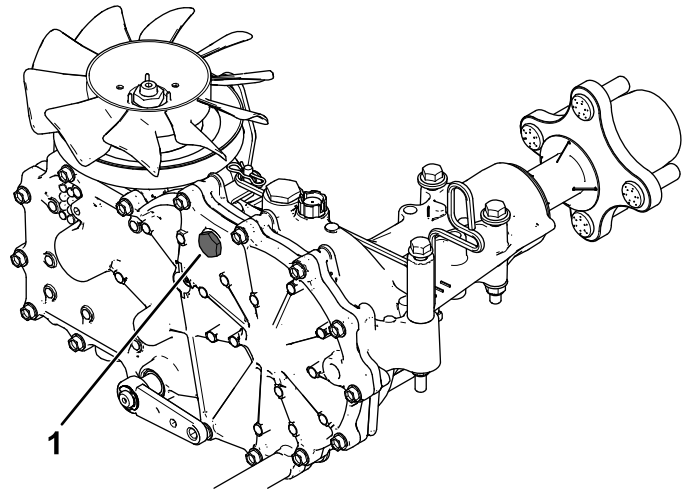

Figure 92
2. Remove the transaxle top port plug from each side and ensure that fluid appears at the bottom of each transaxle top port (Figure 92).
If necessary, add Toro® HYPR-OIL™ 500 hydraulic fluid through the fill port until the fluid appears at the bottom of each transaxle top port (Figure 92 and Figure 93).